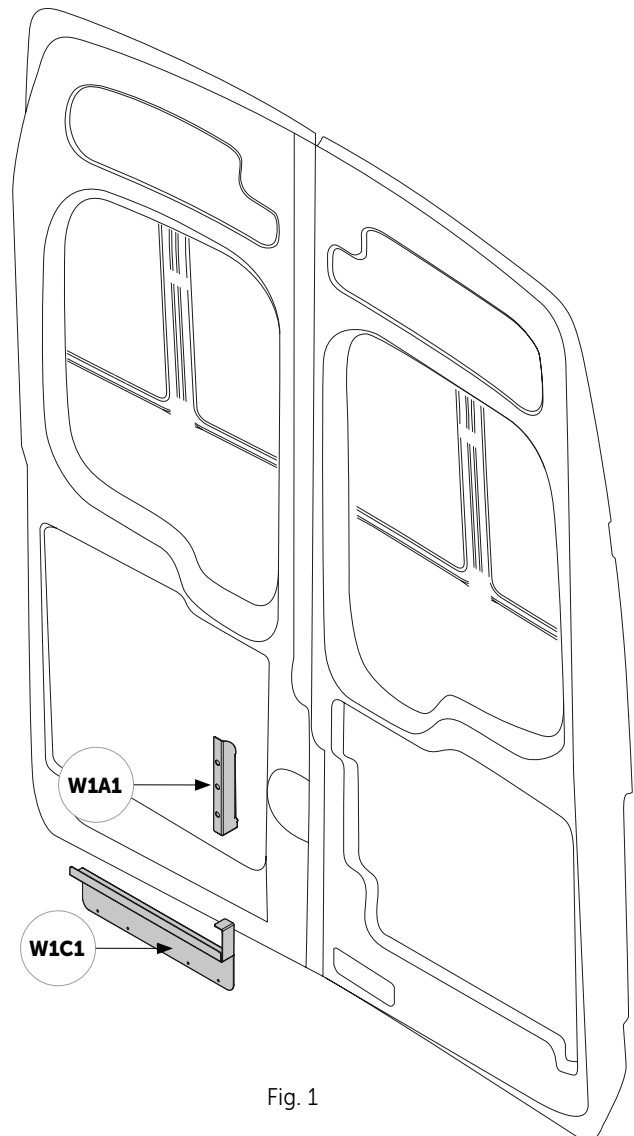
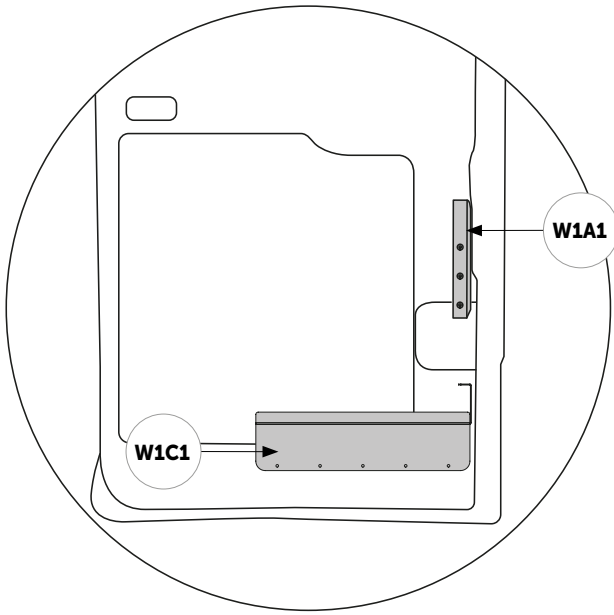

Fig. 1
Fig. 2
1. **W1A1** is mounted in the lower recess (Fig. 1) so that it is flush with the side of the door (Fig. 2) and flush with the edge of the door (Fig. 3). Mark the screw hole locations. Drill the holes and then screw in **W1A1**.
2. The **W1C1** element is mounted below the door handle area. Adjust **W1C1** so that it is level with the previously installed **W1A1** (Fig. 2). Mark the screw hole locations. Drill holes and then screw in the reinforcement – element **W1C1**.